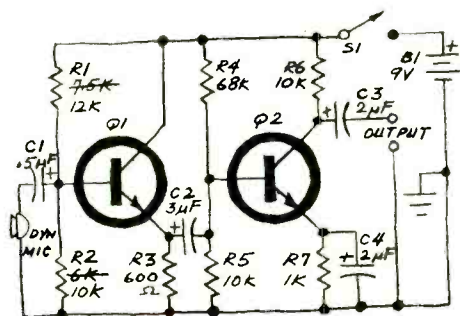

Fig. 8. This is the final circuit layout.
Insert all of the above figures into the circuit as shown in Fig. 8.
• 7. Breadboard the circuit. When substituting resistor values, keep the same ratio between the values and increase or decrease until you come close to something you have. For instance, assume you do not have a 7500- or 6000-ohm resistor for  $R1$  or  $R2$ . You know the values can go up, so find the ratio of  $R1/R2$ —which is 1.25. An increase in both values will merely raise the input impedance, which is not objectionable. Thus, as shown in Fig. 8,  $R1$  and  $R2$  were changed to 12k and 10k, respectively, since they were readily available.